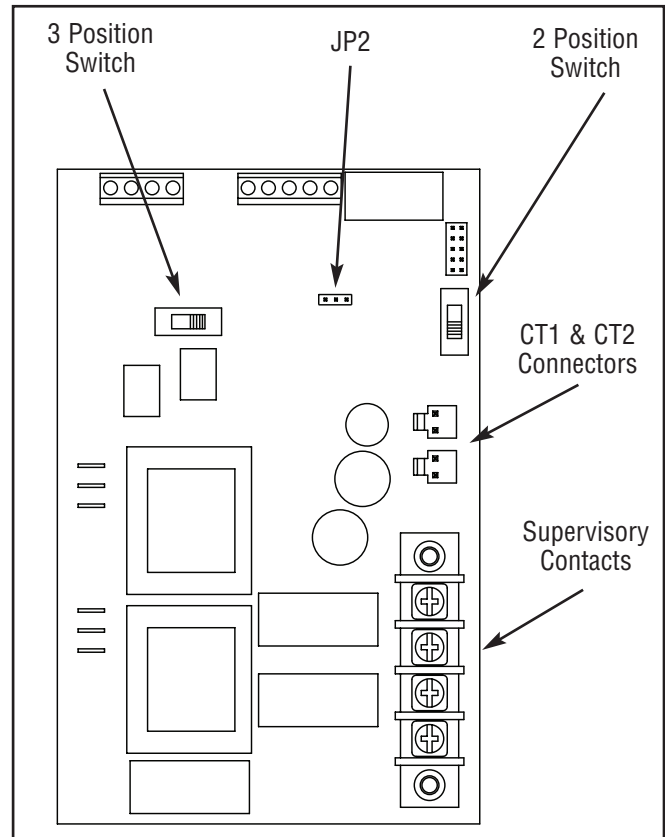

Figure 7 — Control Module
- If generator is installed in an area regularly subjected to temperatures below 40°F (4°C), select a 50 second warm up time by moving jumper installed on JP2 (Figure 7) from '20' position to '50' position.
- Place 2 position switch (Figure 7) in 'NG' or 'LP' position, whichever is appropriate for your system.
- Place 3 position switch (Figure 7) to match KW rating of installed generator.